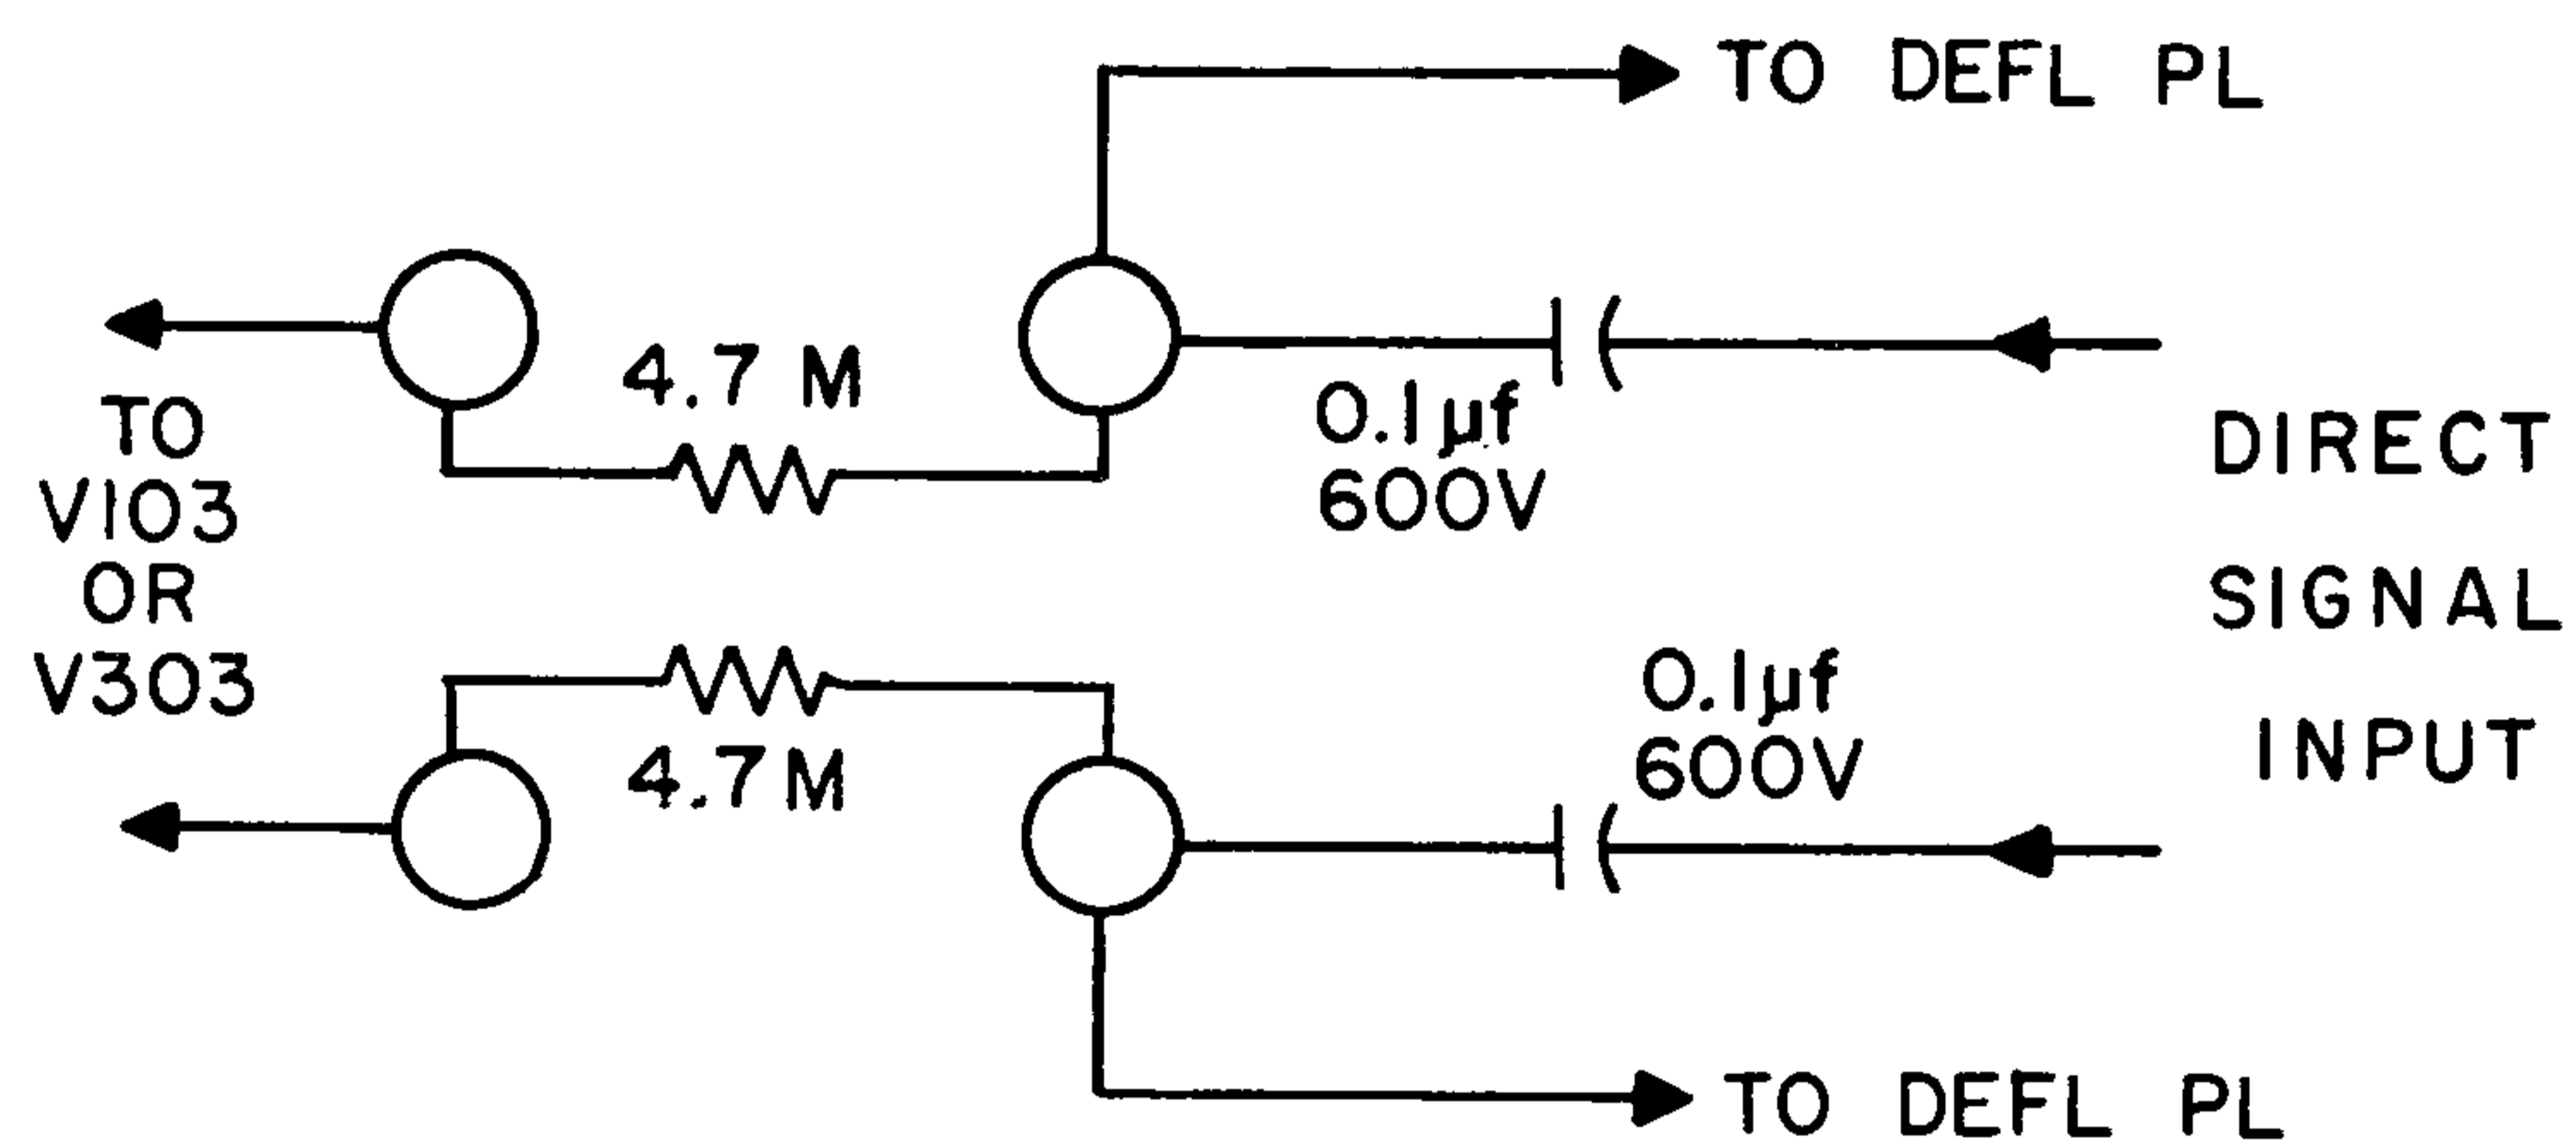

FIGURE 2-2. CIRCUIT FOR DERIVING POSITIONING VOLTAGE FOR SIGNALS COUPLED DIRECT TO DEFLECTION PLATES
c. DERIVING POSITIONING VOLTAGES (See Figure 2-2)